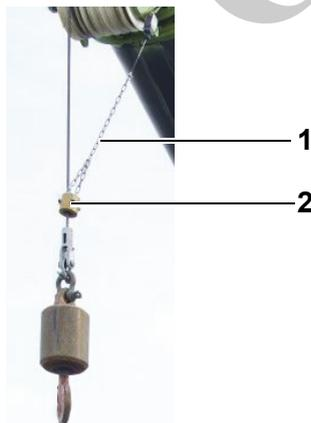

Fig. 177 Lifting limit switch weight
4	Guide the hoist rope through the weight (2) in Fig. 177 and attach the chain (1) in Fig. 177 to the lifting limit switch on the left side as seen in direction of travel.